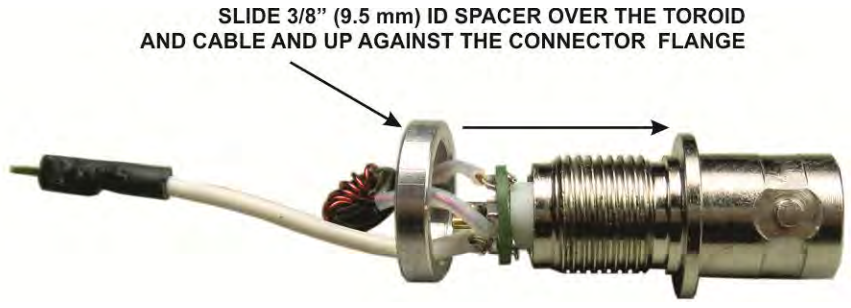

Figure 39. Putting the Spacer on the Antenna Connector.
□ Locate the antenna connector assembly with the low-pass filter (LPF) attached and carefully slide the spacer over the cable and toroid and up onto the threaded portion of the connector (see Figure 39).